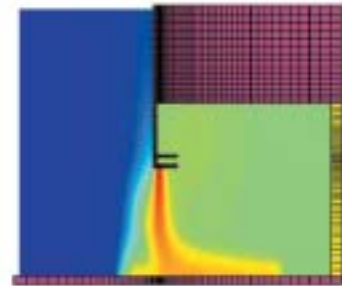

Fig. 3
- Fig. 3 shows the effectiveness of a correctly installed and selected Air Curtain,